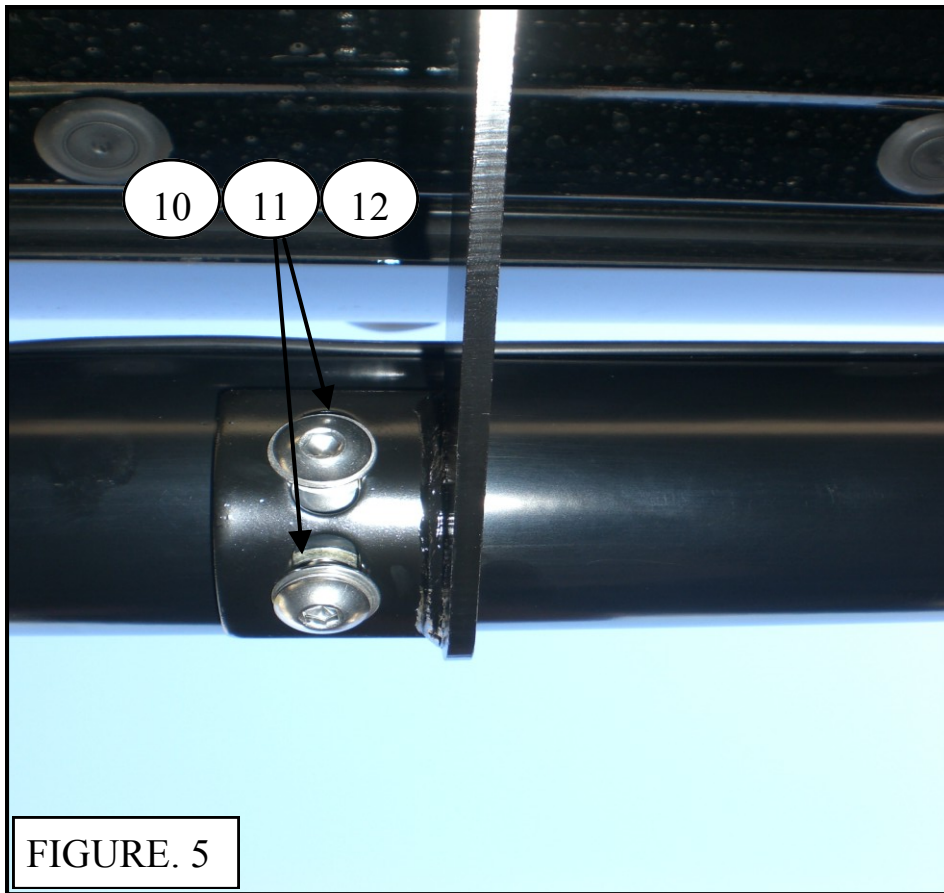

FIGURE. 5
6. Take the drivers side step bar and place it on the mounting cradles attach the step bar using (*6 PCS*) M10 button head bolts, (*6 PCS*) M10 toothed lock washers, and (*6 PCS*) M10 flat washers. Repeat this step for the passenger side. *FIGURE 5*
3. Take the drivers side step bar and place it on the mounting cradles attach the step bar using (6 PCS) M10 button head bolts, (6 PCS) M10 toothed lock washers, and (6 PCS) M10 flat washers, repeat this step for the passenger side. *FIGURE 5*